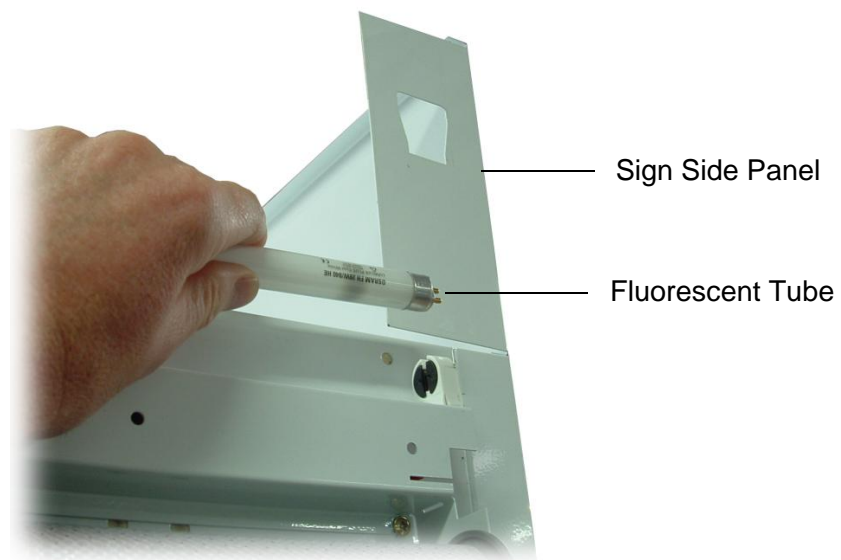

Figure 14: Replacing the Sign Light
3. Revolve the fluorescent tube until the pin position allows withdrawal and then lift the tube up to remove (see Figure 14 below).